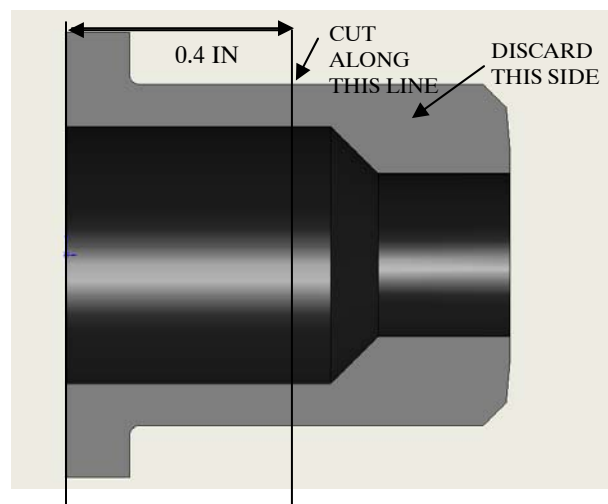

FIGURE 4: HP PLUG PIN SEAL CUTTING DIAGRAM
6.14 OBTAIN P/N 1049499 HP PIN PLUG SEAL. CAREFULLY AND CLEANLY CUT THROUGH THE CROSS SECTION OF THE SEAL APPROXIMATELY 0.4 INCH AWAY FROM THE END WITH THE LARGER OUTSIDE DIAMETER. REFER TO FIGURE 4 BELOW FOR GUIDANCE. REPEAT THIS PROCESS FOR A TOTAL OF 10 PIN SEALS.